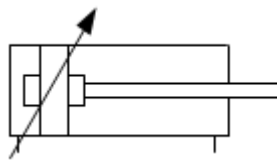

FIG 5.
C. The symbol for a double acting cylinder with end position cushioning is shown in Fig 5.